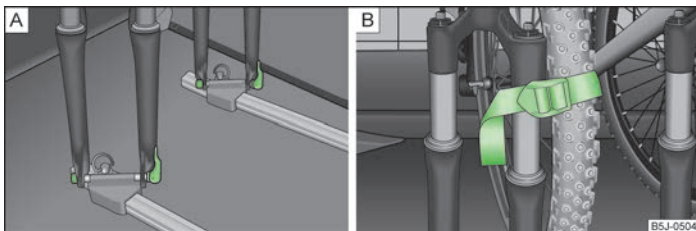

Fig. 58 Put in the bicycle/example fastening the front wheel
- Fit the bicycle fork onto the fixing axle and tighten with the quick tension jack » Fig. 58 - .
- It is best to store the removed front wheel between the crank of the left pedal and the bicycle frame, attach it with a strap to the front fork » Fig. 58 - and/or to one of the fixing points.